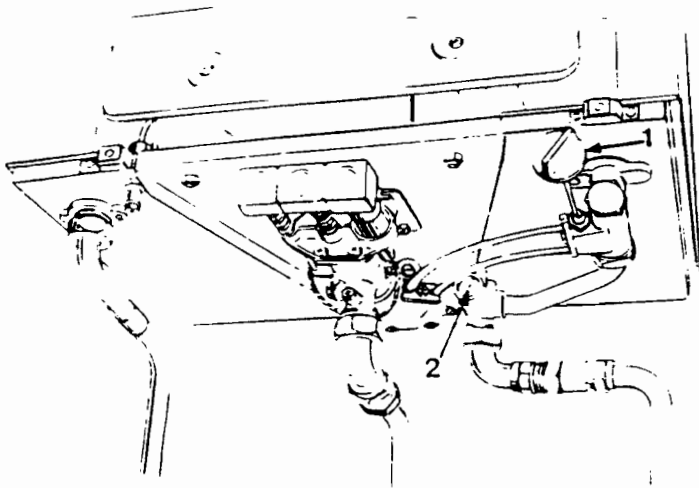

FIG. 1
Adjust the water throttle (2) Fig. 1. to give a water temperature rise of up to 44°C (80°F).
Fully open the furthest HOT draw off tap from the heater. Ensure that the Winter/Summer control (1) Fig. 1. is in the Winter position. Adjust the water throttle (2) Fig. 1. to give the required water rate (turn anti-clockwise to open).